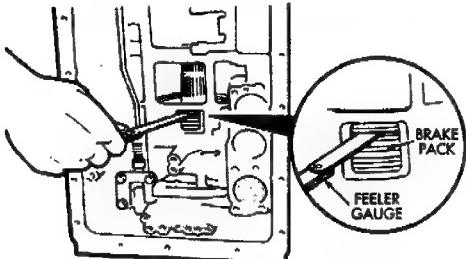

Fig. 16 Checking Second Brake Pack Clearance
(19) Install second brake pack retainer with rounded edge of retainer facing disc.
(20) Install second brake pack snap ring.
(21) Check brake pack clearance with feeler gauge (Fig. 16). Clearance should be: .89 to 2.15 mm (.035 to .084 in) on 4-cyl. transmissions and .062 to 1.98 mm (.024 to .078 in) on 6-cyl. transmissions. If brake pack clearance is not correct, brake pack components are not seated. Reassemble brake pack if necessary.